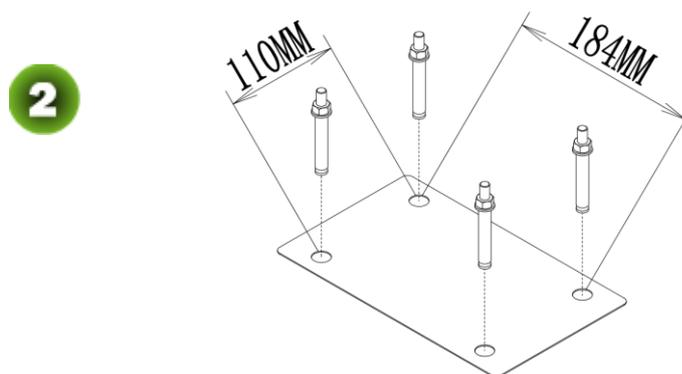

Figure 2-3B
- 2) Drive four expansion bolts into the positioning soft tapes, as shown in Figure 2-3B.